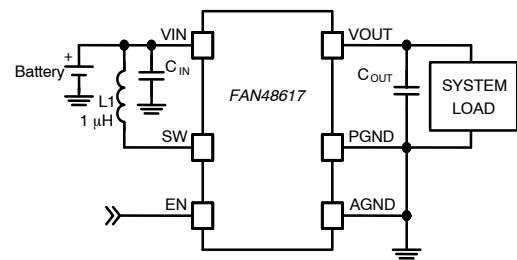

Figure 1. Typical Application
**ELECTRICAL CHARACTERISTICS** (Recommended operating conditions, unless otherwise noted, circuit per Figure 1,  $V_{OUT} = 5.0\text{ V}$ . Typical, minimum and maximum values are given at  $V_{IN} = 3.6\text{ V}$ ,  $T_A = 25^\circ\text{C}$ ,  $-40^\circ\text{C}$ , and  $+85^\circ\text{C}$ .)
(Unless otherwise specified;  $V_{IN} = 3.6\text{ V}$ ,  $V_{OUT} = 5.0\text{ V}$ ,  $T_A = 25^\circ\text{C}$ , and circuit according to Figure 1.)
(Unless otherwise specified;  $V_{IN} = 3.6\text{ V}$ ,  $V_{OUT} = 5.0\text{ V}$ ,  $T_A = 25^\circ\text{C}$ , and circuit and components according to Figure 1.